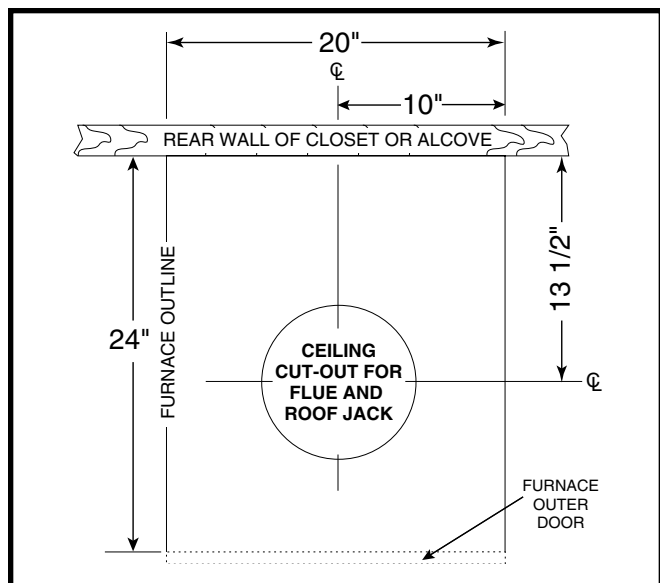

Figure 19. Cut-Out Dimensions for Flue & Roof Jack
1. Locate center of Roof Jack opening, measure 13 1/2" from the rear wall of closet or alcove along the center line of furnace and floor opening. See Figure 19.